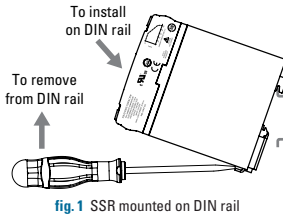

fig. 1 SSR mounted on DIN rail
- Install the relay on the DIN Rail (as shown in fig. 1) 50